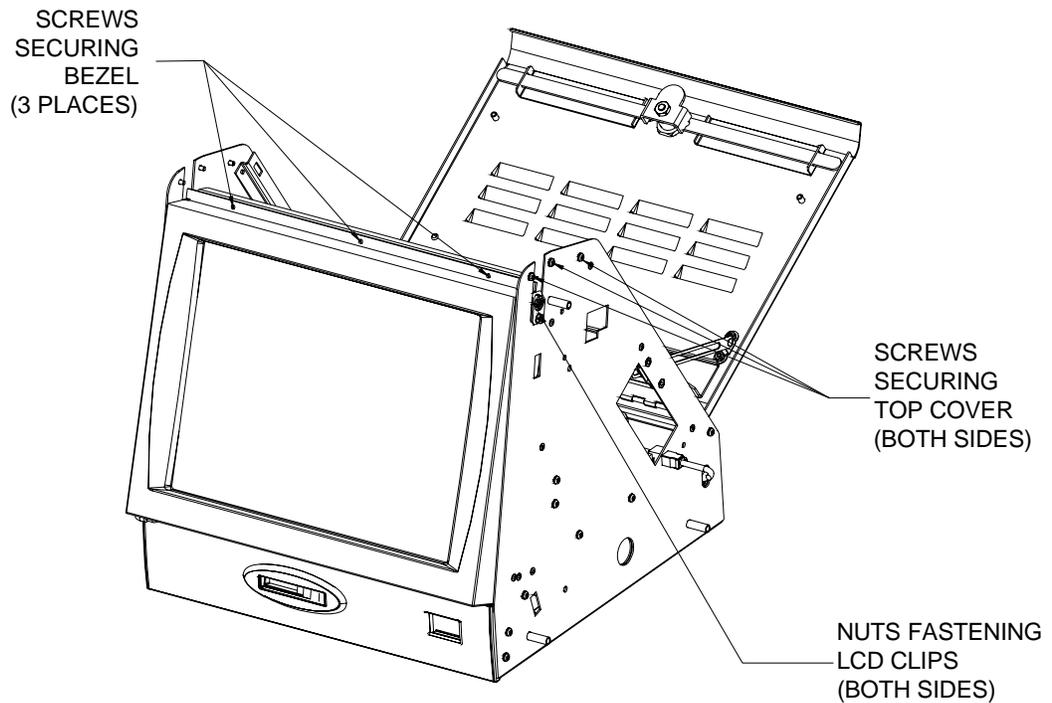

FIGURE 4 - TOP COVER/LCD CLIP ACCESS
4. Reattach the front bezel to the monitor with the 3 screws removed earlier. See Figure 4.
6. Tighten the nuts securing the 2 LCD clips. See Figure 4.
8. Replace the 3 screws at the top of each side piece. The shorter screw will go in the screw hole closest to the rear of the game. See Figure 4.